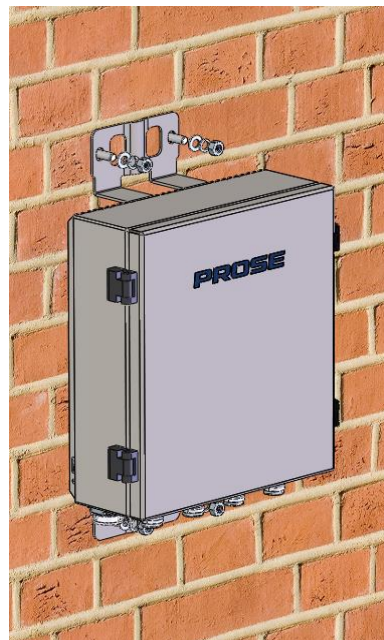

**Figure 3-50 Location of four holes on the wall**
1. Use the tools to drill the holes on the wall, as shown in Figure 3-50.